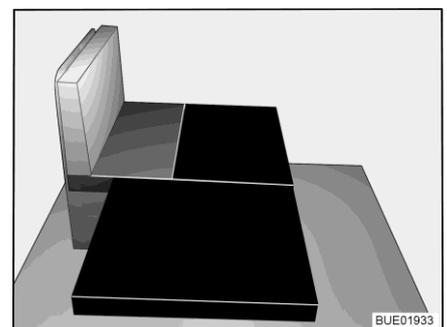

Fig. 64 After conversion
- Place large additional cushion on the cushion support (refer to Fig. 64).